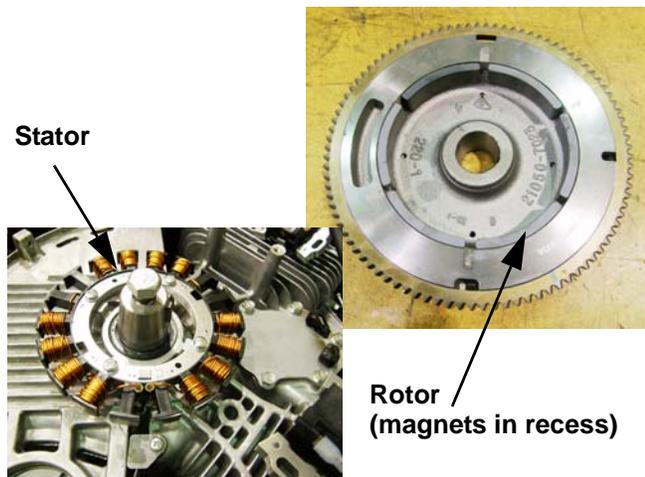

Figure 7.29
1. When the engine is running, magnets attached to the underside of the flywheel induce A.C. (Alternating Current) in the stator that is mounted beneath the flywheel. See Figure 7.29.